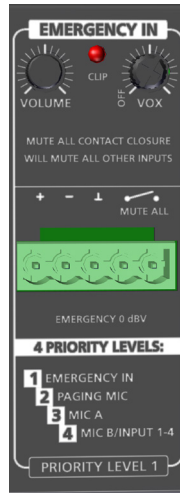

Figure 2. Emergency Input
1. See Figure 2. Connect a balanced 0 dBV line level emergency input audio signal to the Euroblock connector.